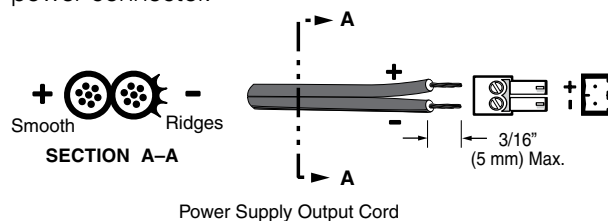

Figure 3. Power Connection
- ① **Power input** — Wire the power supply as shown in figure 3, and connect it to the power connector.